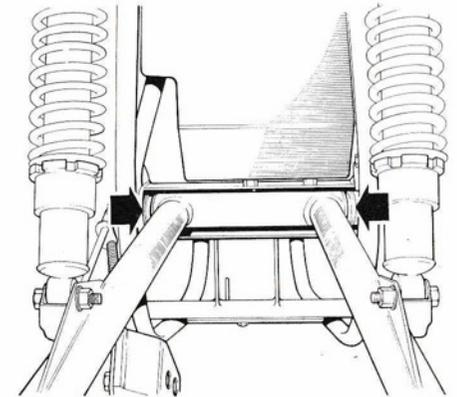

Fig. 62 Showing swinging arm spacers in position.
- 2 Position the spacing washers between the ends of the swinging arm spacer tube and the frame side plates (see Fig. 62). This is most easily achieved by threading the pivot stud with captive adjuster plate through the left side plate, spacer washer and swinging arm. Place the right spacer washer in position and continue to slide the pivot stud through into the right side plate, until fully home.